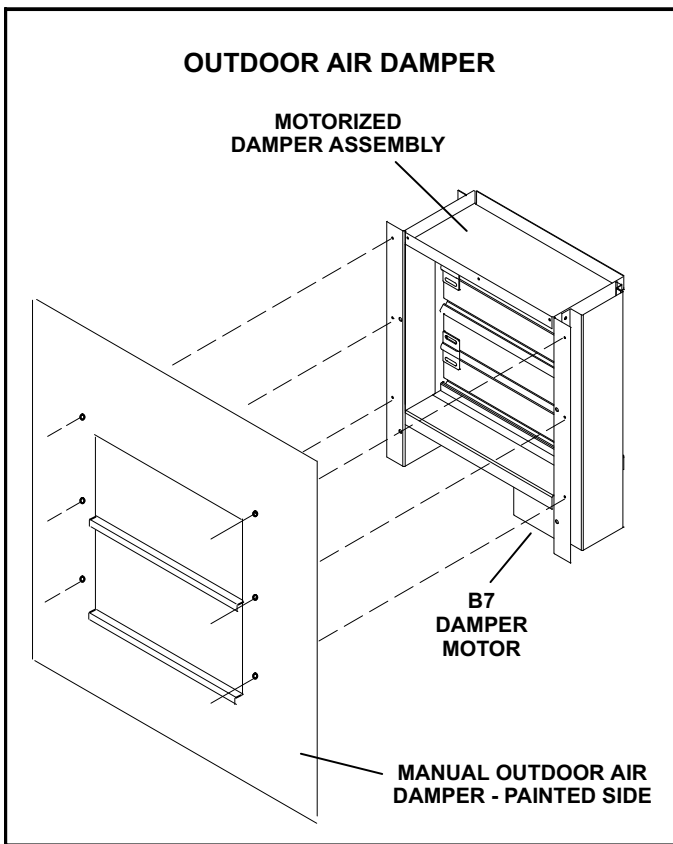

FIGURE 25
T1DAMP11A-1 is available for KGA 2, 2.5, 3, 4 and 5 ton unit and T1DAMP11N-1 is available for the KGA/KGB 6 and 7-1/2 ton units. Both sets include the outdoor air hood. A motorized kit (T1DAMP21AN1) can be ordered separately for all KGA/KGB unit sizes. The dampers may be manually or motor (M) operated to allow up to 25 percent outside air into the system at all times (see figure 25). Washable filter supplied with the outdoor air dampers can be cleaned with water and a mild detergent. It should be sprayed with Filter Handicoater when dry prior to re-installation. Filter Handicoater is R.P. Products coating no. 418 and is available as Part No. P-8-5069.